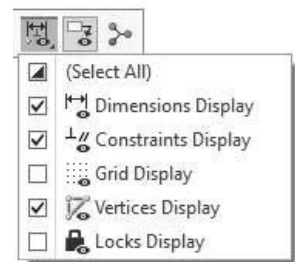

Figure 3-15 Sketcher Display Control
**Sketcher Display Filter**—Allows the user to control the display of sketcher dimensions, sketcher constraints, the sketcher grid, and sketcher vertices (endpoints). This tool only shows up when you are in sketcher. See Figure 3-15.